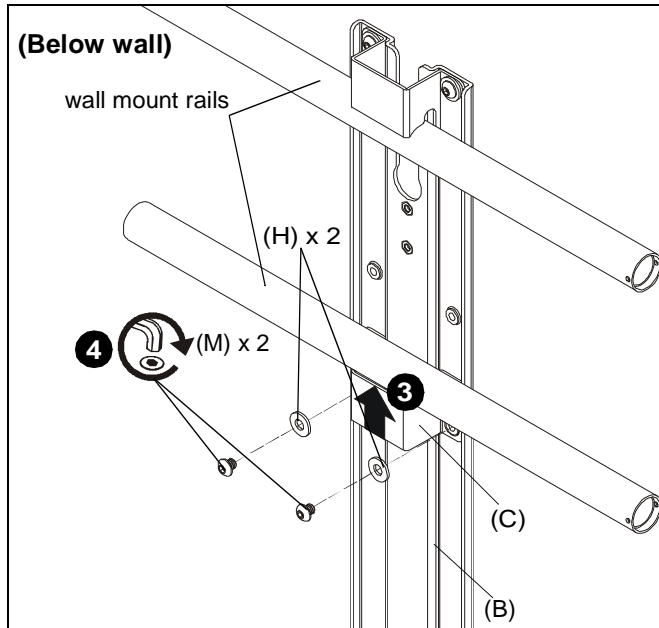

Figure 5
3. Slide second shelf bracket (C) underneath lower rail on wall mount, lining up holes on shelf bracket (C) to main bracket (B). (See Figure 5)
4. Use two 1/4-20 x 1/4" button head cap screws (M) and two large washers (H) to secure shelf bracket (C) to main bracket (B). (See Figure 5)